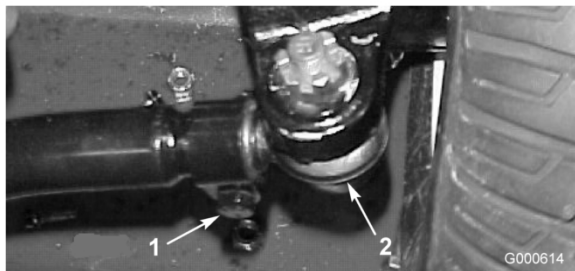

Figure 48
2. To adjust, remove the cotter pin and nut from either tie rod ball joint (Figure 48). Remove tie rod ball joint from axle case support.
3. Loosen the clamps at both ends of the tie rods (Figure 48).
4. Rotate the detached ball joint inward or outward one (1) complete revolution. Tighten clamp at loose end of tie rod.
5. Rotate the entire tie rod assembly the same direction (inward or outward) one (1) complete revolution. Tighten clamp at connected end of tie rod.